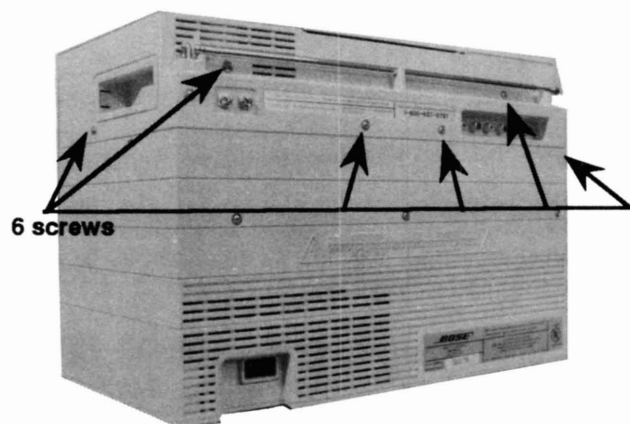

Figure 1
1. Top Cover Removal (Figure 1)
2. Top Cover Replacement (Figure 1)